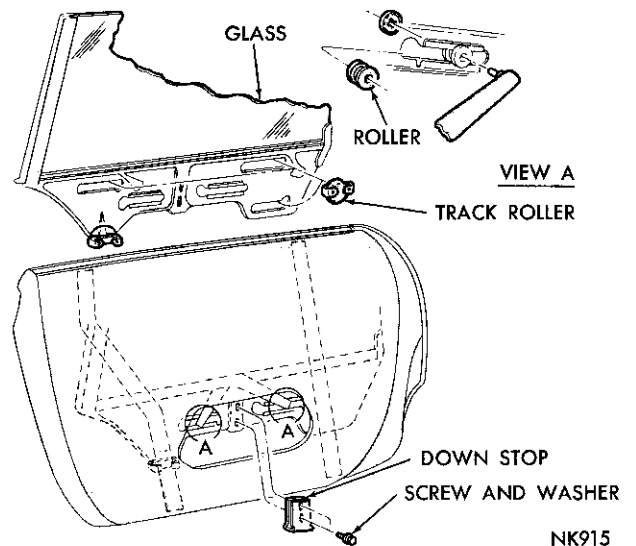

Fig. 87—Rear Door Glass Attachment
(1) Remove the inside handles, trim panel and watershield.
(2) Remove the down stop from the glass lower frame (Fig. 87).
(3) Remove the spring nuts from the regulator arm studs.
(4) Support the window assembly and remove the regulator studs from the glass lower frame.
(5) Remove the glass and lower frame assembly from the door.
(6) Inspect the roller assemblies for damage and excessive wear.
(1) Lubricate the regulator arm roller and track roller slots in the lower frame of the door glass.
(2) Insert the roller assemblies (Fig. 87) into the slots of the glass lower frame with the spring loops
(Fig. 87) attach the regulator arm studs to the door glass lower frame and roller assembly. Lubricate the tooth contact area approximately $\frac{1}{2}$ inch wide along the entire length of the area on the outboard side of the sector and studs on the front and rear arms (Fig. 88).